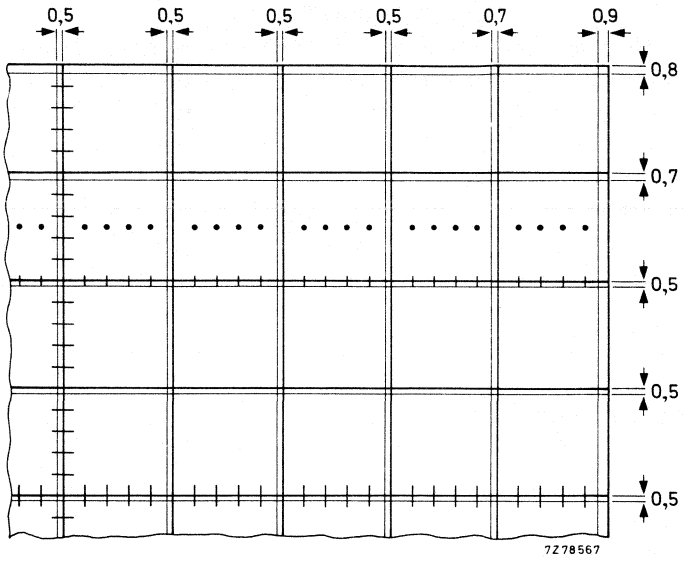

Fig. 6 Quarter of graticule with horizontal and vertical line pairs, see note 6 on opposite page.
6. A graticule consisting of horizontal and vertical line pairs according to Fig. 6, is aligned with the electrical x-axis of the tube. With optimum corrections applied (including orthogonality correction), any horizontal or vertical trace will fall between these line pairs.